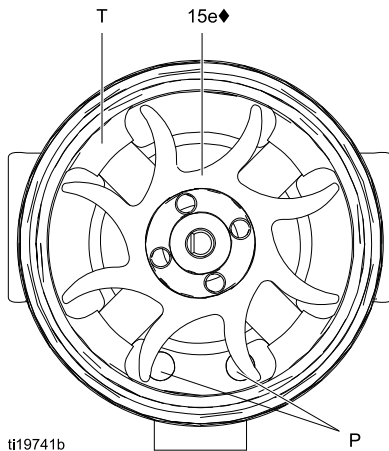
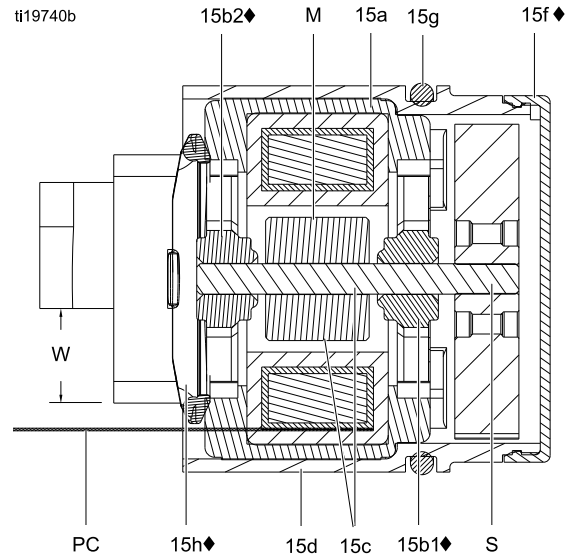

Figure 34 Fan Orientation
Figure 35 Alternator Cross-Section
7. Hold the coil assembly (15a) on a workbench with the fan end facing up. Using a wide blade screwdriver, pry the fan (15e) off the shaft (S).
10. Install the new bottom bearing (15b1◆) on the long end of the shaft (S). The flatter side of the bearing must face away from the magnet (M). Install in the coil (15a) so the bearing blades are flush with the surface of the coil.
12. Hold the coil assembly (15a) on a workbench with the fan end facing up. Press the fan (15e♦) onto the long end of the shaft (S). The fan blades must be oriented as shown.
13. Carefully press the coil assembly (15a) into the front of the housing (15d♦) while aligning the pin on the coil with the slot in the housing. The 3-wire connector (PC) must be positioned below the wider notch (W) of the housing tabs, as shown in Fig. 35. Be sure the coil alignment pins (P) are positioned as shown in Fig. 34.
14. Rotate the fan (15e) so its blades clear the four bearing tabs (T) at the back of the housing. Ensure that the blades of the bottom bearing (15b1♦) align with the tabs.